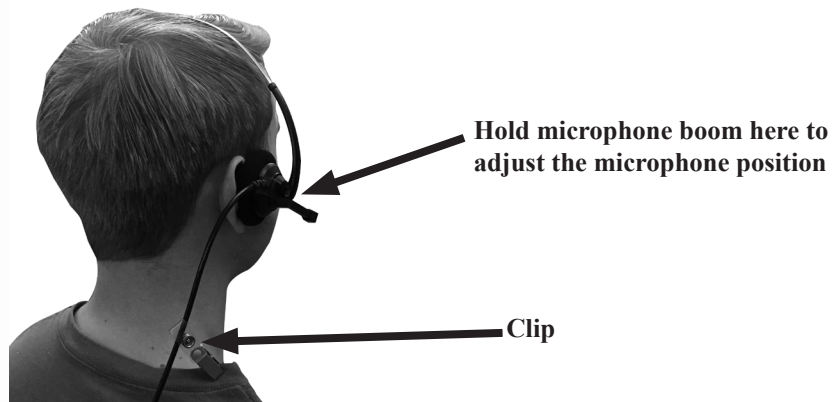

Figure 8. Correct wearing of the headset
- Wear the headset with its cable behind your back and attach the clothing clips to your collar and shirt to keep the cable safely behind you, as shown in **Figure 8**.